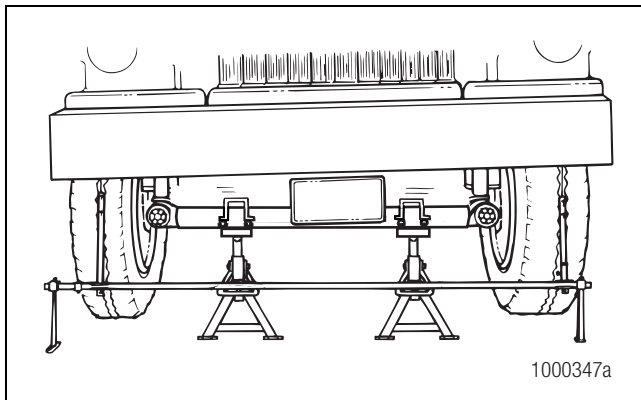

Figure 8.6
6. Repeat Step 5 for the front of the tires. Figure 8.6.